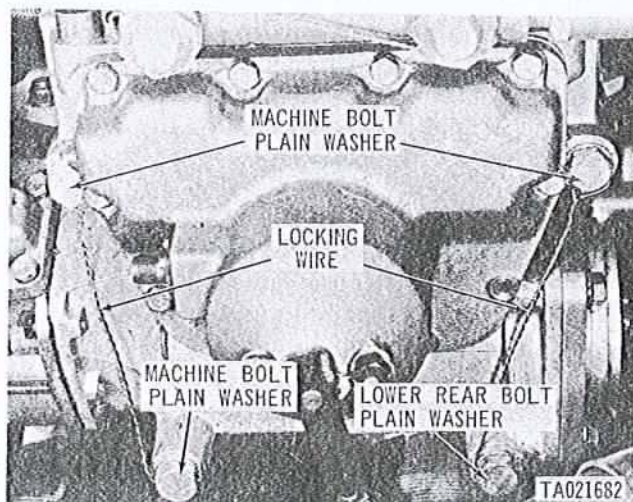

Figure 2-44. Removing or installing fuel injection pump.
(16) Cut locking wire (fig. 2-44) and remove three machine bolts and plain washers. Loosen lower rear bolt until threads are free. Bolt cannot be removed until after fuel injection pump is removed from engine. Remove fuel injection pump from mounting base. Remove and discard preformed packing from mounting base oil transfer tube. Remove bolt and plain washer.
(6) Install new preformed packing on fuel injection pump mounting base oil transfer tube, and install lower rear bolt and plain washer (fig. 2-44) in pump housing.
(7) Position pump with mounting bolts on mounting base and install three bolts and plain washers (fig. 2-44). Torque tighten the four bolts to 600 pound-inches and install locking wire.